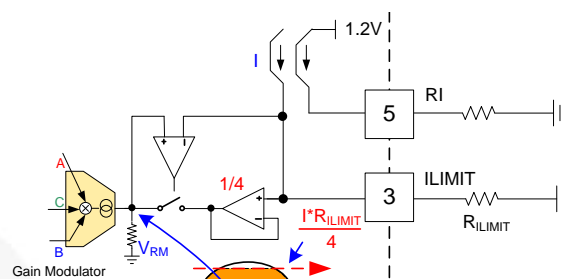
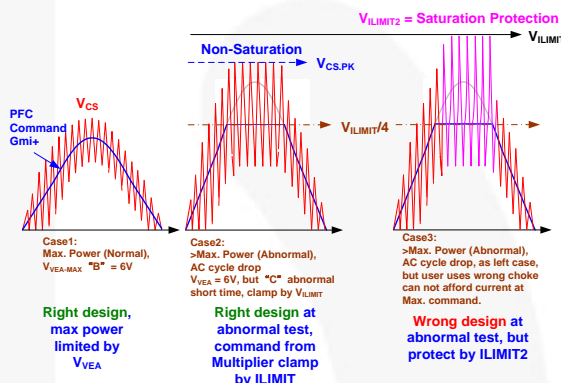

Figure 22. Current Command Limit by ILIMIT
Figure 23. ILIMIT and ILIMIT2 Setting
**Case 2, current limit 1 (abnormal state):** The current command from the gain modulator is  $k \cdot I_{AC} \cdot V_{VEA} / V_{LPK}^2$ . When in abnormal state (e.g. AC cycle miss and return in a short period), the  $V_{LPK}$  has a delay before returning to the original level. This delay significantly increases the current command. If the command is greater than the clamp limit level,  $V_{LIMIT}$ , it limits as shown in Figure 22 and Figure 23. The peak current of this state can be used as the maximum current designed for each channel such that inductor current is not saturated.